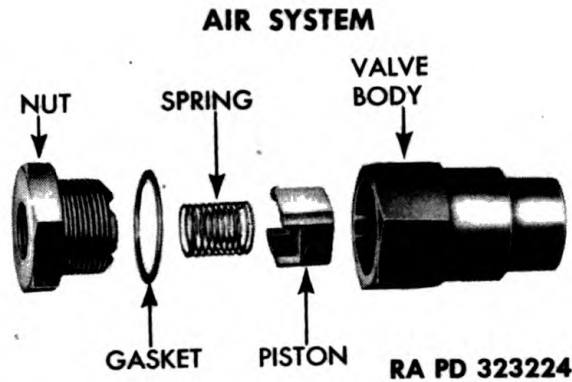

Figure 230 — One-way Valve Disassembled
c. Disassembly (fig. 230). Clamp valve body in vise. Unscrew nut and gasket, and tip body over to let spring and piston slide out.
e. Assemble (fig. 230). Dip piston in clean engine oil, and place in valve body with insert end forward. Set spring in recess in piston. Install new gasket on end nut, and screw nut into valve body, making sure that spring seats in recess in face of nut. Tighten securely.